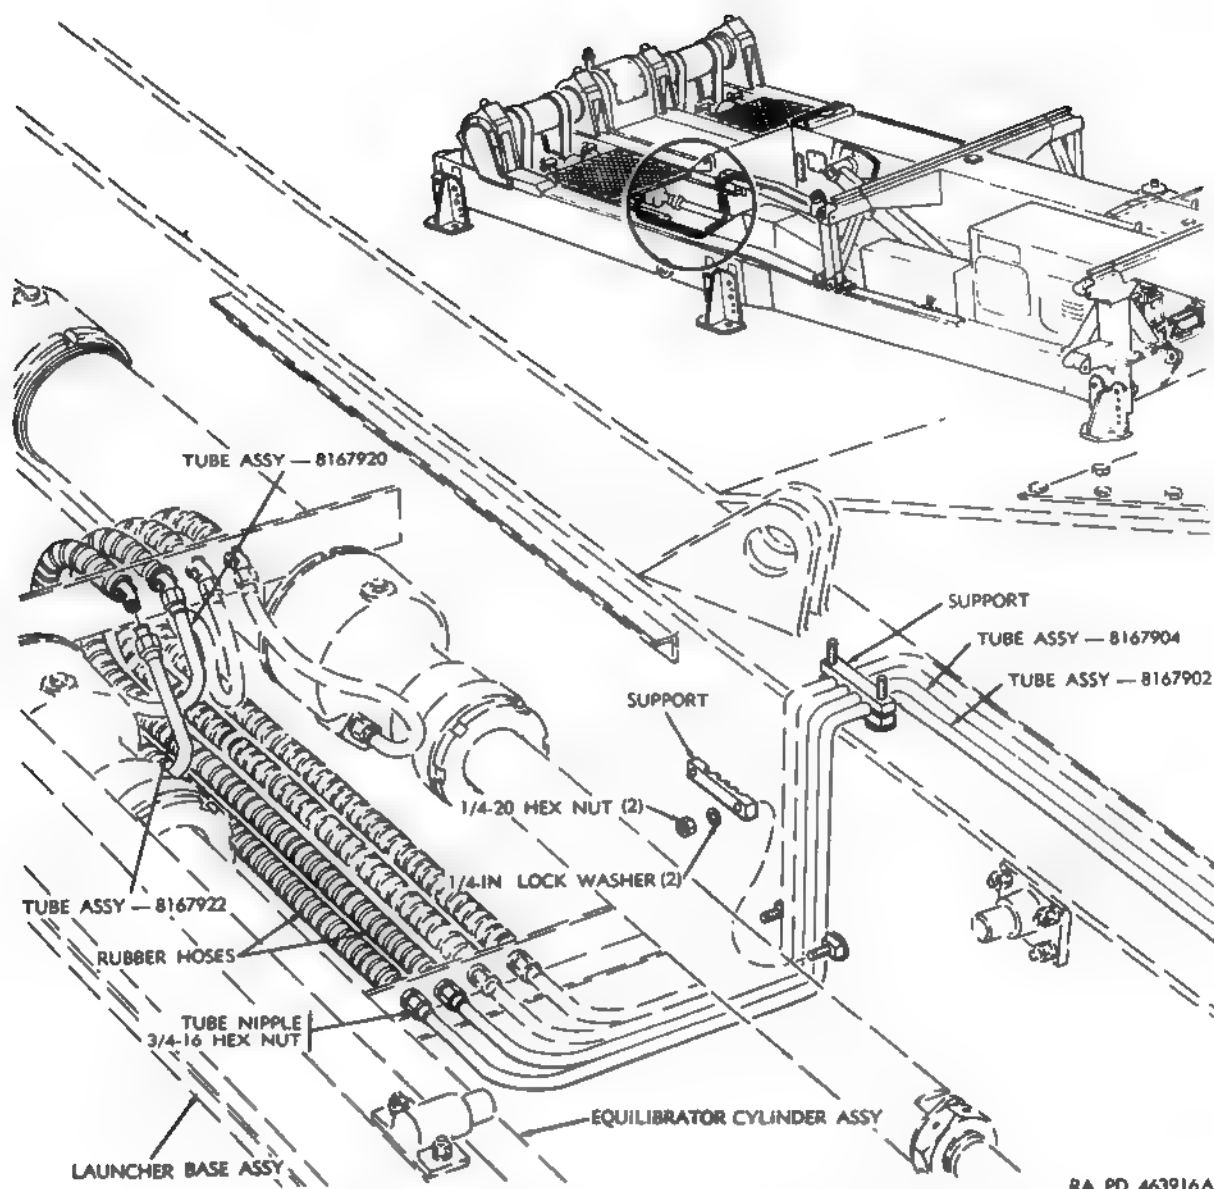

Figure 191. Erecting system hydraulic network—removal and installation.
- (4) Remove launcher rack assembly as described in paragraph 61a (1) and (2).
- (5) Remove clamps (figs. 191 and 192) and supports securing tube assemblies to be replaced.
- (6) Remove tube assemblies (figs. 191, 192, and 193) to be replaced; cap all open lines.